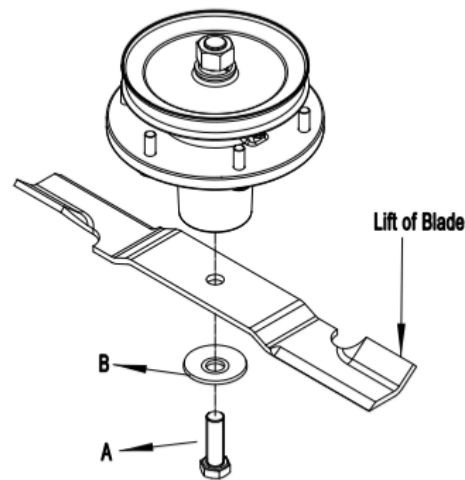

Fig. 12
Remove bolt (A), which has right hand threads (Refer to Fig. 12). Remove the washers, blade.
deck as shown in Fig. 12. Secure with the mower blade mounting bolt and washers